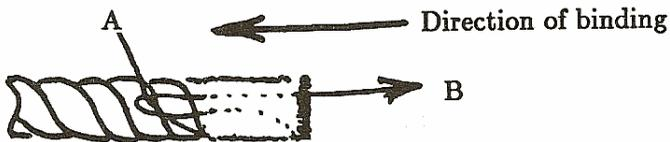

Fig. 10
- Whipping* - Tying off the end of a rope or strand to prevent fraying. (Fig.10)
In order to keep the ends of the rope tidy and to prevent fraying they should be whipped as shown in Fig.10. Take a length of twine, make a loop and lay it along the rope. Hold this with the thumb and forefinger of the left hand and bind the rope for about half to three quarters of an inch, working from the end inwards.